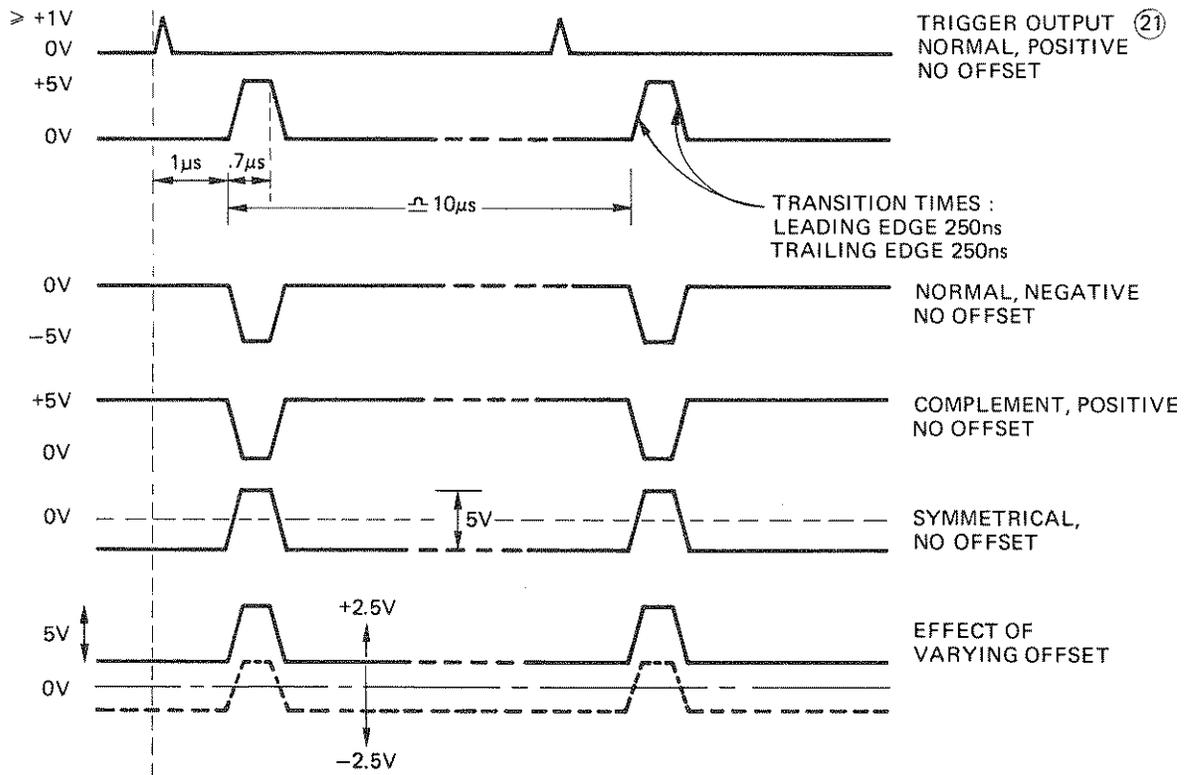

Figure 3-8. Output pulses in normal internal trigger mode
3-17 The output pulses should appear at the OUTPUT (16) connector as shown in Figure 3-8 according to the settings of the POLARITY switch (19) and the SYM/NORM/COMPL switch (17).